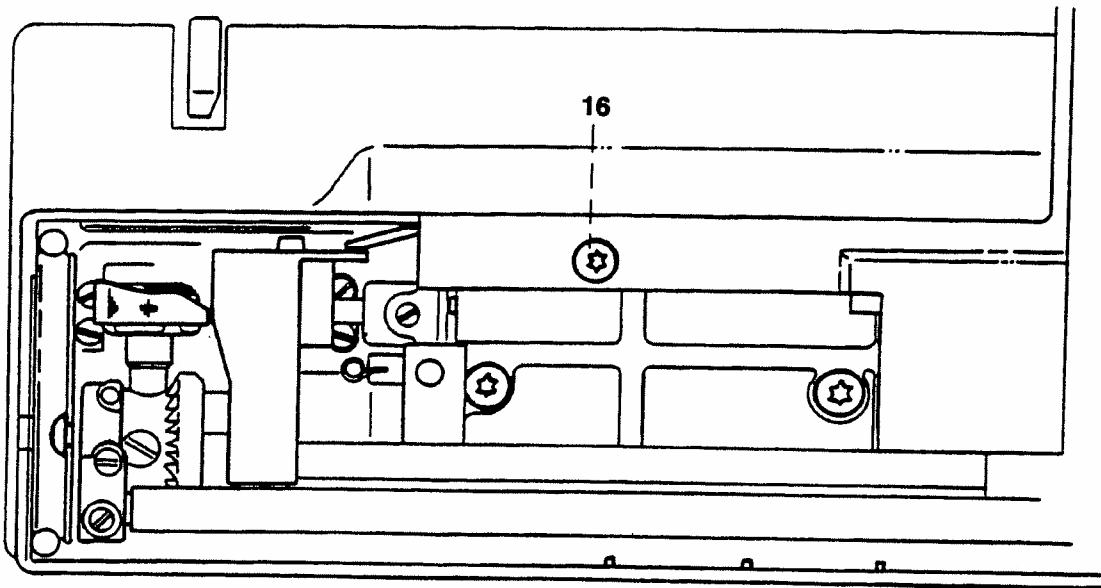

Fig. 9
- Turn out retaining screw 16 (fig. 9).